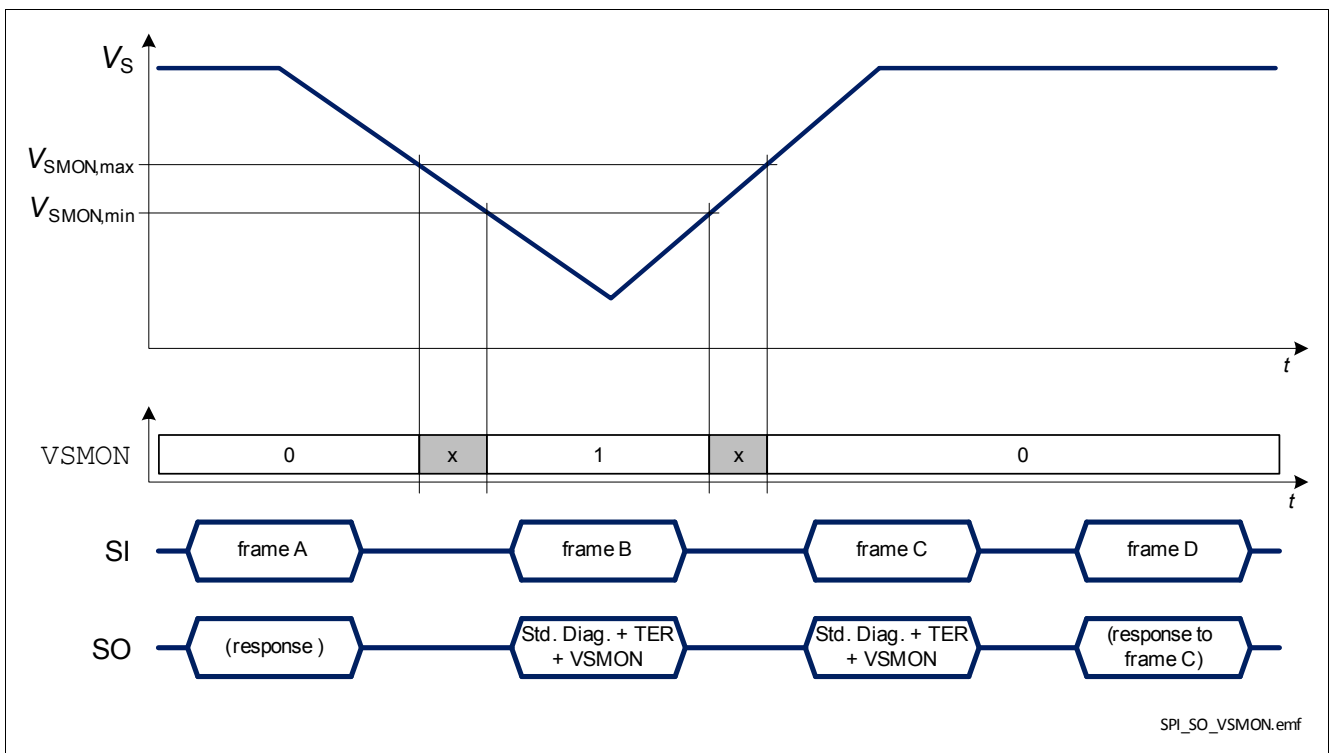

Figure 35 BTS56033-LBB response in case of a negative battery voltage transient
- when $V_S < V_{SMON}$ and $\text{DCR.MUX} \neq 111_B$, as shown in Figure 35